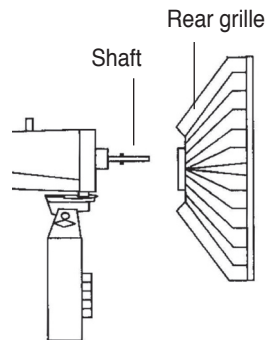

Fig. 2
2. Put rear grille on motor shaft and secure with rear mounting nut. (Fig2)